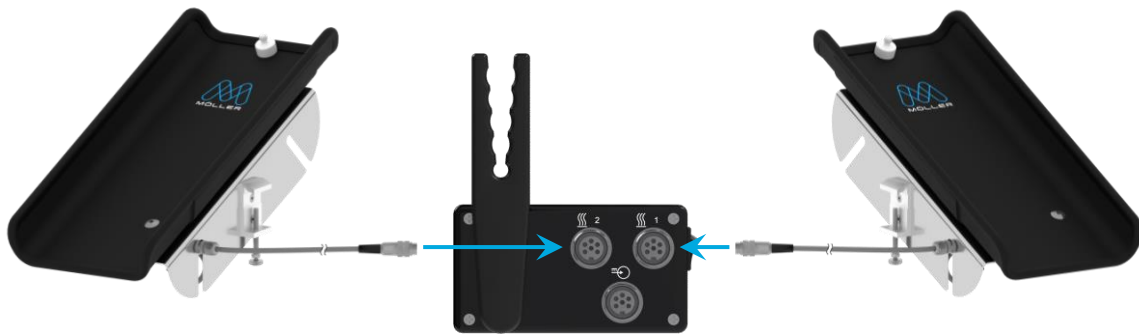

Figure 6:
7. Push the plug into the connection socket so that the guide rails interlock. There should be hardly any resistance (*Figure 6*).